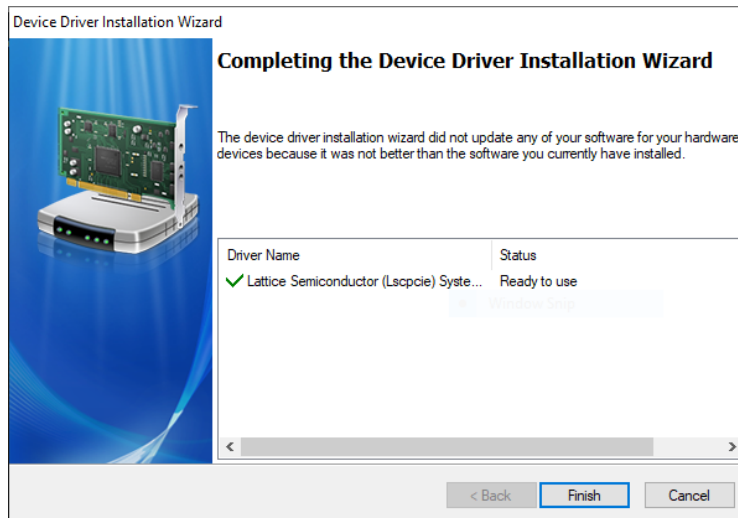

Figure 5.22. Device Driver Installation Completed
9. If the driver is installed successfully, a message is displayed as shown in Figure 5.22.